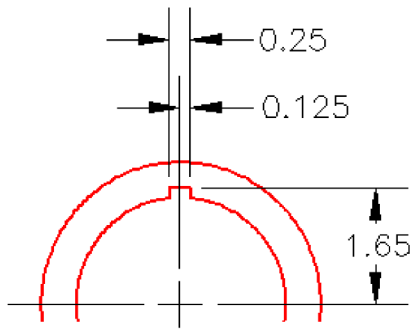

**Figure Step 2A**
**Step 2** Note the location of X0Y0Z0. Draw the Base sketch and revolve it create the Base model of the object shown below. Revolve it by using a centerline. (Figure Step 2A, 2B, 2C, 2D, and 2E)